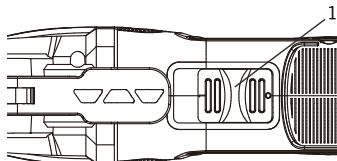

Fig. 2
1. To turn the tool ON, slide the ON/OFF switch (1) toward the front of the tool (Fig. 2).